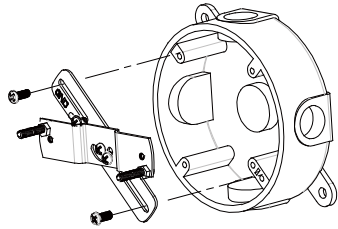

FIGURE 36
- (1) Switch off the power source or wall switch
- (2) Line up the holes on the mounting bracket with the holes on your junction box. Using fitting screws (depending on size of the holes in your junction box), and attach the mounting bracket to your junction box (FIGURE 36).